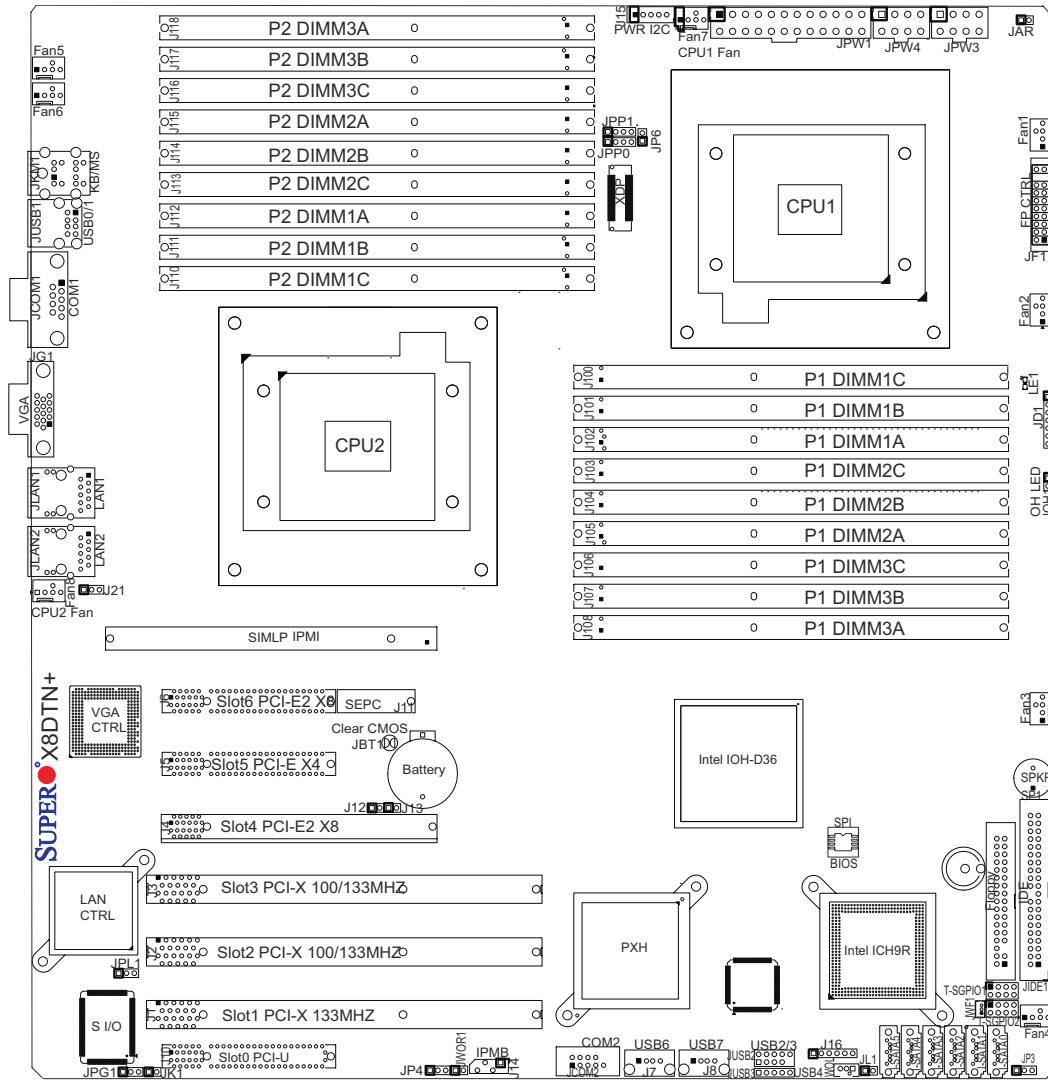

Figure 5-3 Node Board Features
- If only one processor is installed, the single processor socket must be installed in the socket labeled CPU1 (See Figure 5-3). The other socket remains empty.
See Figure 5-3 for location of CPU 1.
Table 5-2). Always spread DIMMs across all three banks for each CPU (see Figure 5-3). Gently press down on the DIMM module until it snaps into place in the slot. Repeat for all modules.